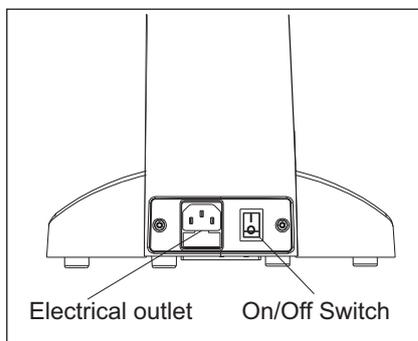

Fig. 20
1. Flip the main switch to "I" (ON) as shown in Figure 20.